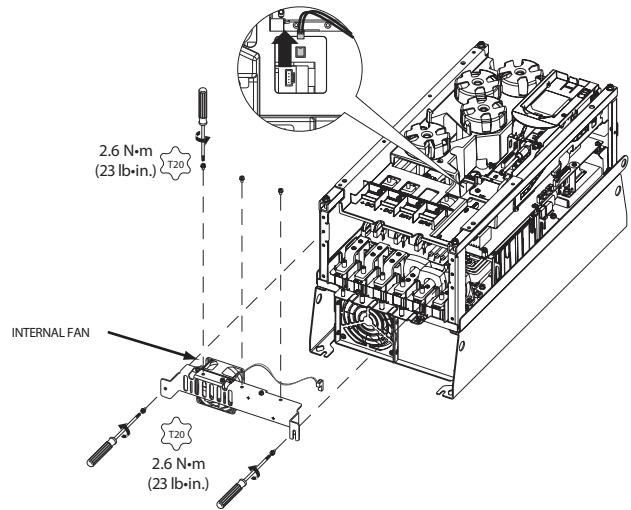

Fig. 29 — Internal Fan, Frame 6
5. Remove and replace the internal fan. See Fig. 29.